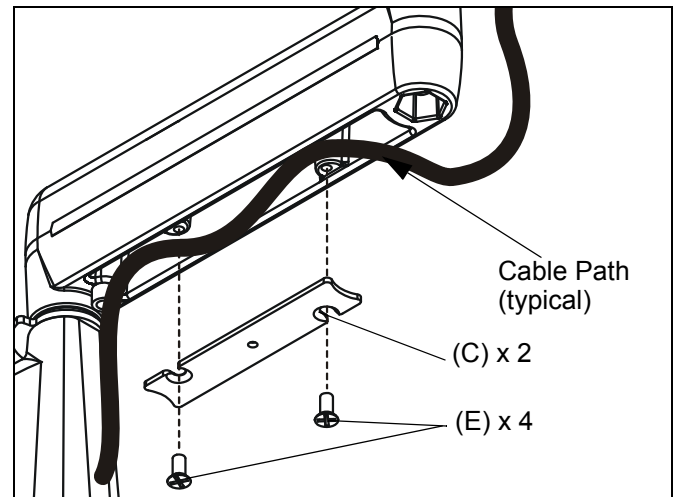

Figure 9:
**CAUTION:** Ensure that adequate cable slack exists for movement of display, and that cables will not be pinched by installation of cover (C) or screws (E).
- Carefully insert cables in cavity located in lower portion of mount arm (See Figure 9).
- Using Phillips screwdriver, install cover (10) with two screws (20). (See Figure 9)